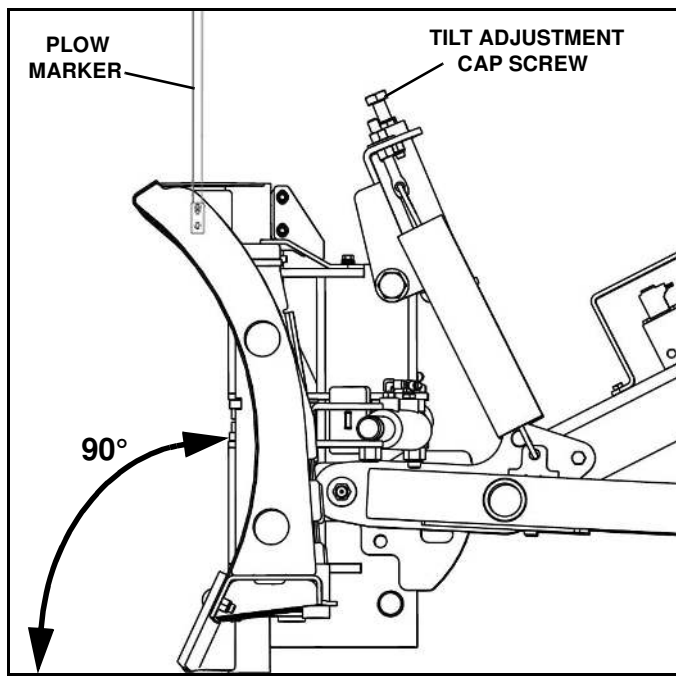

Figure 1-5
2. This plow is equipped with the MaxAdjust™ System (Patent pending). Adjust capscrew as required to position center of moldboard at a 90° angle to the ground. (See Figure 1-5).